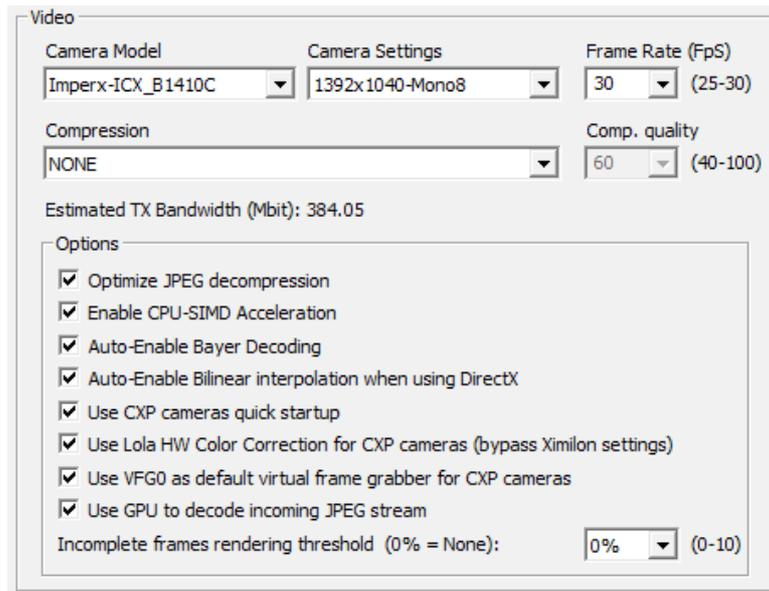

Figure 10: LoLa Setup, Video section
- **“Incomplete frames rendering threshold”**: when using uncompressed video you can also select the incomplete frames rendering threshold (Fig. 10); 0% means that Lola must receive ALL video packets from the remote host in order to correctly render the entire video frame. Setting a percentage between 1% to 10% means that LoLa can render the video frame also if it hasn't received all the necessary packets to rebuild the entire frame: in case of some lost network packets, this results in small black lines randomly rendered on the display surface. In normal operation conditions, there shall be no lost data packets, thus this parameter shall be left 0% (which is the default value). Use it only if you experience some small network problems which affects video.